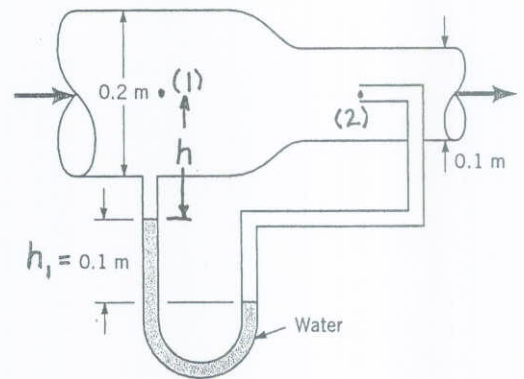

FIGURE P3.81
3.81 Air flows steadily through the variable area pipe shown in Fig. P3.81. Determine the flowrate if viscous and compressibility effects are negligible.